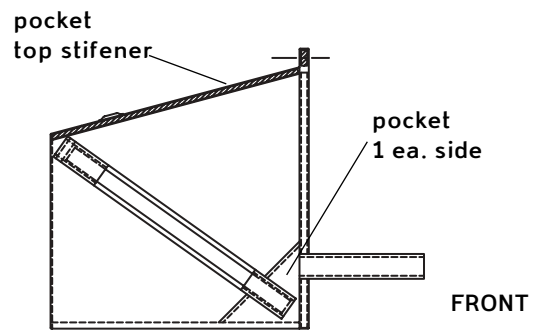

Figure 17. Rain hood stiffener pockets
4. Fold both supports out and reinsert them into the two pockets, shown in Figure 17, in the lower corners of the soft side flaps. This will hold the rain hood fully open for use, which is necessary for proper cooling of the M3D electronics.